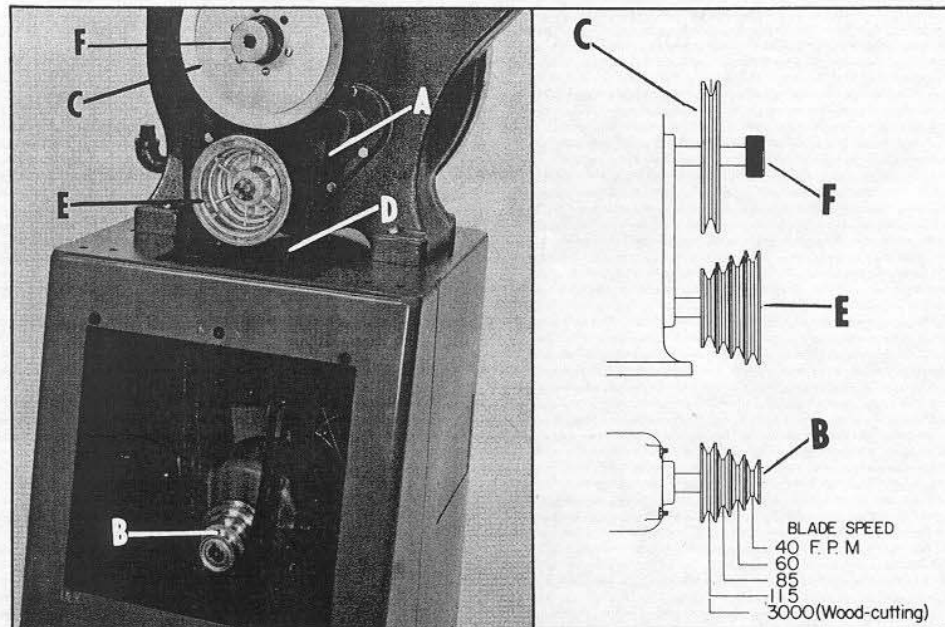

Fig. 21
With the longest belt (A) on the inside groove of the motor pulley (B) and on the driven pulley (C), as shown in Fig. 21, and the small belt (D) on one of the remaining three grooves of the motor pulley and the corresponding groove of the gear box pulley (E), speeds of 40, 60, 85, and 3000 FPM are readily available. To obtain speeds of 40, 60 and 85 FPM, the shifter knob (F) Fig. 21, must be pushed in all the way, as previously explained, and the small belt positioned on one of the three outside grooves of the motor pulley (B) and the gear box pulley (E).
To obtain a blade speed of 3000 FPM, simply pull out the shifter knob (F) Fig. 21.
The blade speed of 115 FPM is obtained by pushing in the shifter knob (F) Fig. 21, removing the long belt (A) from the pulleys and placing the small belt on the inside groove of the motor pulley (B) and the inside groove of the gear box pulley (E).